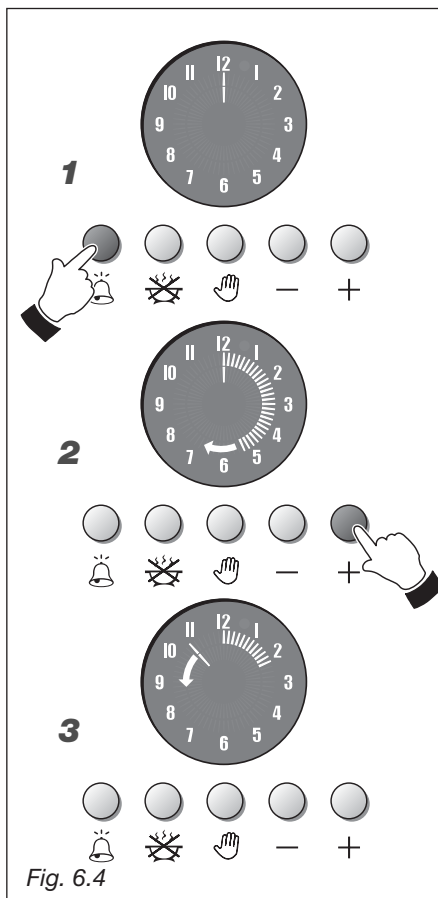

Fig. 6.4
TIMER (fig. 6.4)
1. Fig. 6.4 - To set the timer program press  button.
2. Fig. 6.4 - Press button  within 7 seconds and set the required time. Outer luminous hands light up. Press button  to decrease the time.
3. Fig. 6.4 - The countdown starts immediately and an anti-clockwise luminous hand lights up on the display. On each rotation (1 minute) of this hand one outer luminous hand goes out.